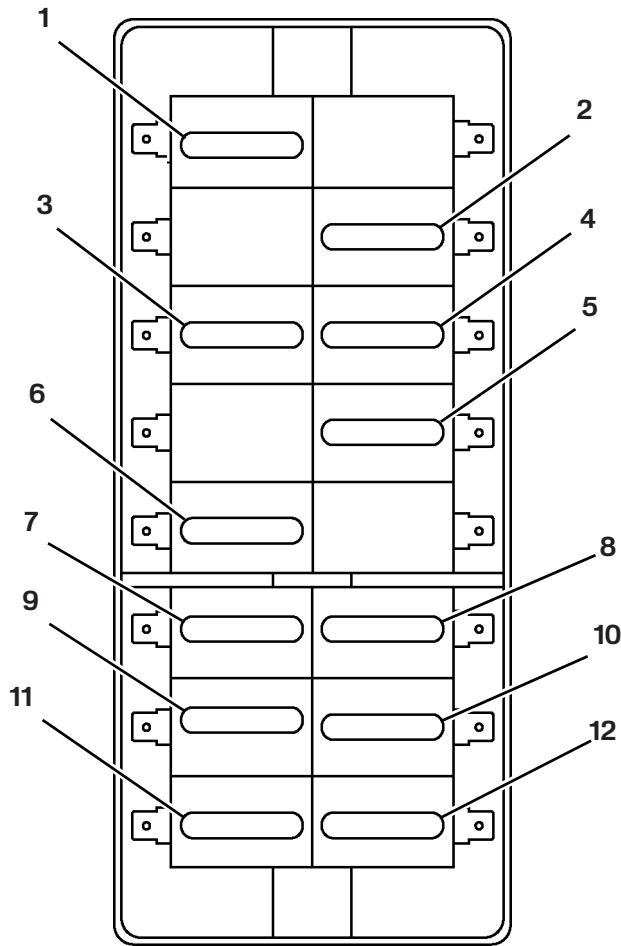

Figure 7-7
Fuses that blow may be replaced but will continue to blow until the cause of the overload is found and corrected. Refer to Figure 7-7 for replacement fuse sizes.
- Check the fuse panel for a blown fuse (Figure 7-7).